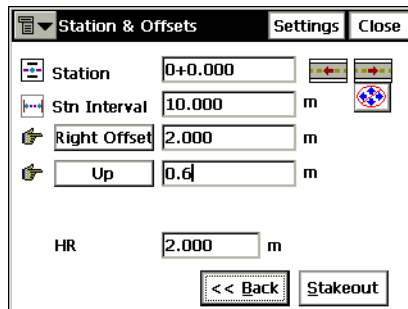

Figure 7-24. Station & Offsets
- In the *Station & Offsets* screen (Figure 7-24), set the station along the curve being staked, the station staking interval, the right or left offset of the stakeout point with respect to the curve, the Up or Down Height offset, the height and the type of the antenna height (GPS mode), or the height of the rod (target) (TS mode).